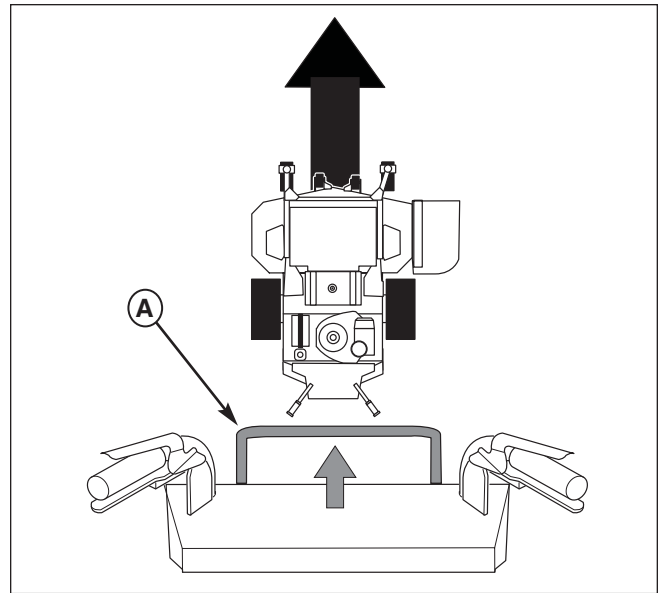

Figure 11. Forward Travel.
### TO MOVE FORWARD AND SET FORWARD SPEED (See Figure 11.)
2. Gently move the forward speed control lever (A, Figure 11) forward until desired speed is achieved.